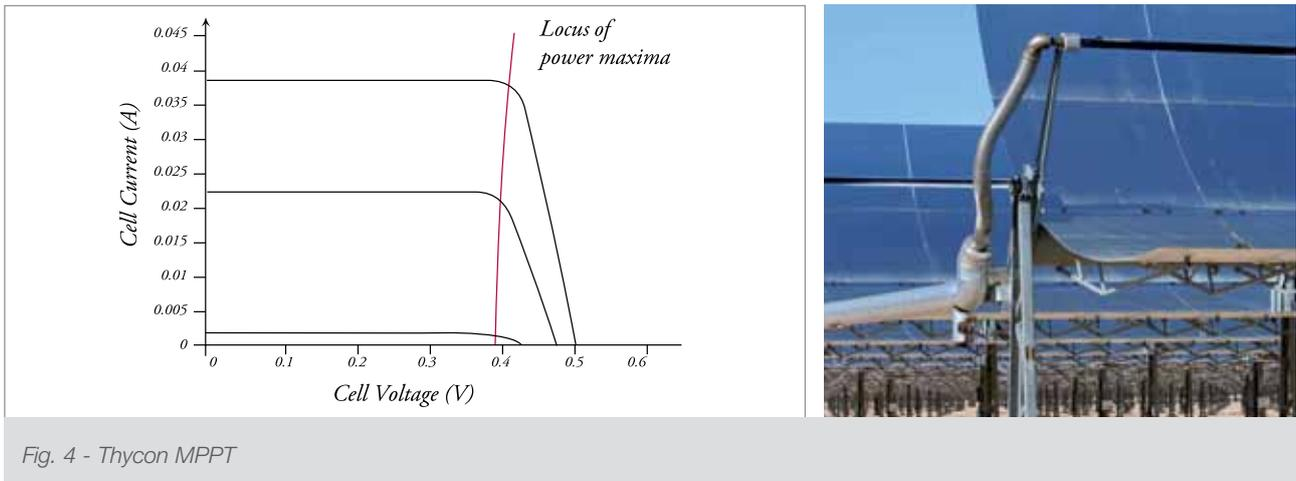

Fig. 4 - Thycon MPPT
MPPT refers to the ability of the power electronics (PE) to extract the maximal power from a PVP for a given level of solar irradiation (and is not related to automated PVP orientation). PV cells have a single operating point where the values of the current (I) and voltage (V) of the cell result in a maximum power output. PV cells have an exponential relationship between current and voltage and the maximum power point (MPP) occurs at the knee of the curve (Fig. 4). The Thycon MPP Tracker utilises a patented algorithm to search for this point and thus allows the chopper circuit to extract the maximum power available from the PVP.